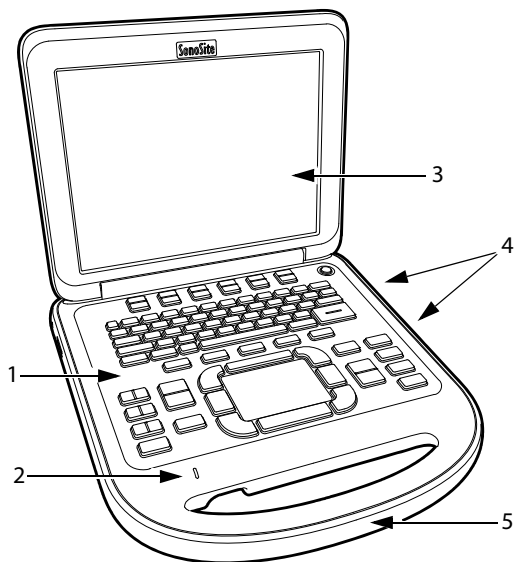

Figure 1 System Front Features:
- ❖ Insert the USB storage device into any USB port on the system or mini-dock. See Figure 1 on page 1.